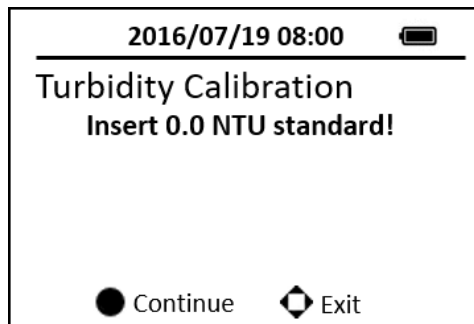

Figure 19 Turbidity Calibration-1
4. Press the **CAL** on the main page, then choose the Turbidity calibration and press the **OK** button to launch the Turbidity calibration page. (Figure 19)